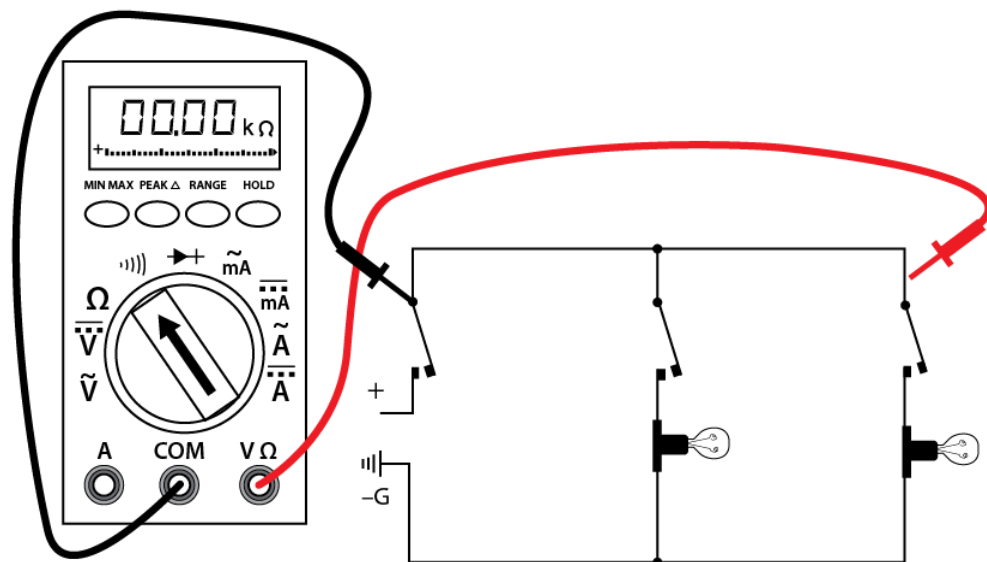

Figure 13.2.5: Wiring for a continuity test (CC BY-NC-SA; BC Industry Training Authority)
- Connect the test lead and probes on the load terminals as shown (Figure 13.2.5). The audible alarm will indicate continuity without a need for taking your eyes off the work.